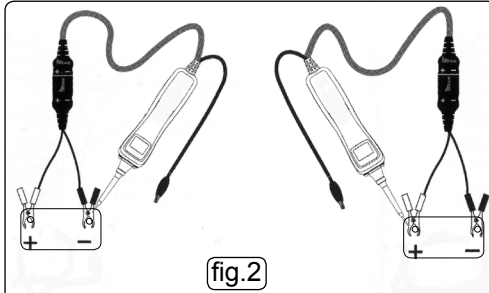

fig.2
3.5 Voltage and Polarity Testing. See fig.2.